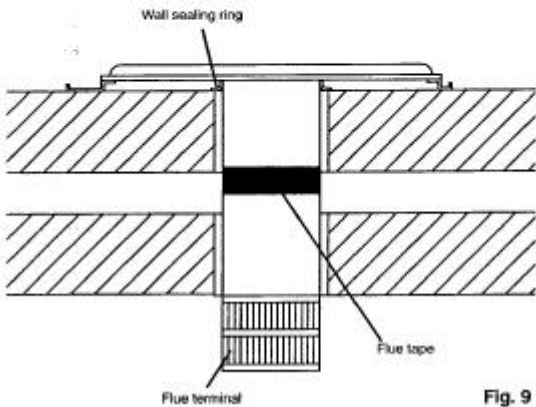

Fig. 9 (Top View)
5. Ensure that the flue terminal protrudes sufficiently on the outside wall face (Fig. 9). Make good as appropriate.